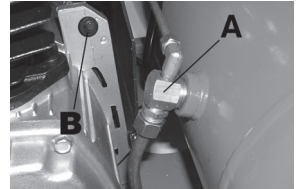

FIGURE 3
CHECK VALVE (A) FIG.3. When the air compressor is operating, the check valve is "open", allowing compressed air to enter the air tank. When the air compressor reaches "Cut-Out" pressure, the check valve "closes", allowing air pressure to remain inside the air tank.
MOTOR THERMAL OVERLOAD PROTECTOR (RESET (B) FIG. 3). The electric motor has an automatic thermal overload protector. If the motor overheats for any reason, the thermal overload protector will shut off the motor. The motor must be allowed to cool before restarting. Press the reset button (B).